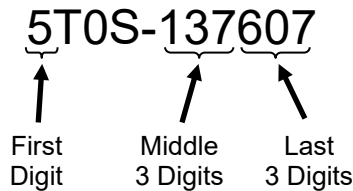

Figure 10 – Machine Serial Number Example
27. Locate the machine serial number label under the Upper IV Holder. Older machines may only have the machine serial number label inside the cabinet. An example of the machine serial number format is shown in Figure 10.
28. The machine serial number will need to be broken up into the elements required by the 2008T BlueStar Premium software as shown in Figure 10.